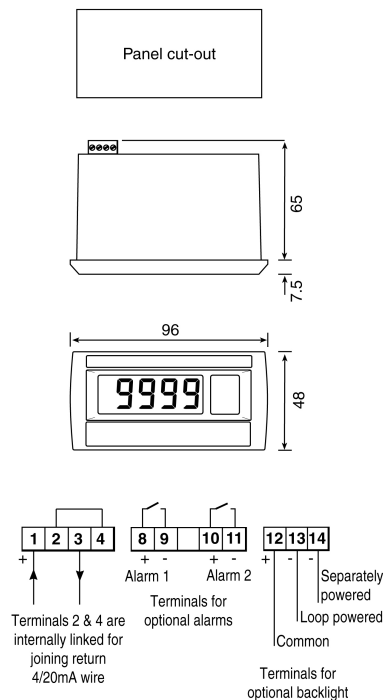

Fig 4A BA307E and BA327E dimensions
Figs 4A and 4B show the overall dimensions of the 96 x 48mm and the 144 x 72mm instruments together with the recommended panel cut-out dimensions. To achieve an IP66 seal between the instrument enclosure and the instrument panel the smaller tolerance aperture must be used, and the 144 x 72mm models must be secured with four panel mounting clamps.
- Cut the specified aperture in the panel. To achieve an IP66 seal between the instrument enclosure and the instrument panel the aperture must have the tighter tolerances specified in Fig 4A and 4B.
- Connect the panel wiring to the rear terminal block(s) as shown in Figs 4A and 4B. To simplify installation, the terminals are removable so that the panel wiring can be completed before the instrument is installed.